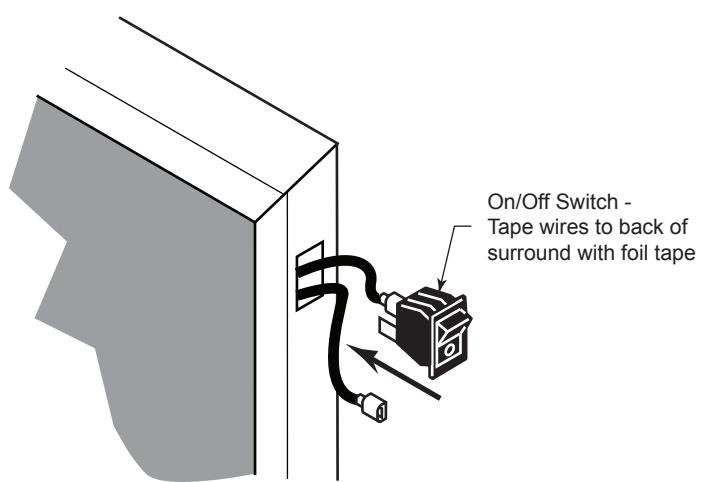

Figure 32 -
2. Insert switch into hole in upper right side of the trim. *Figure 32*
3. Reattach wires. *Figure 32*